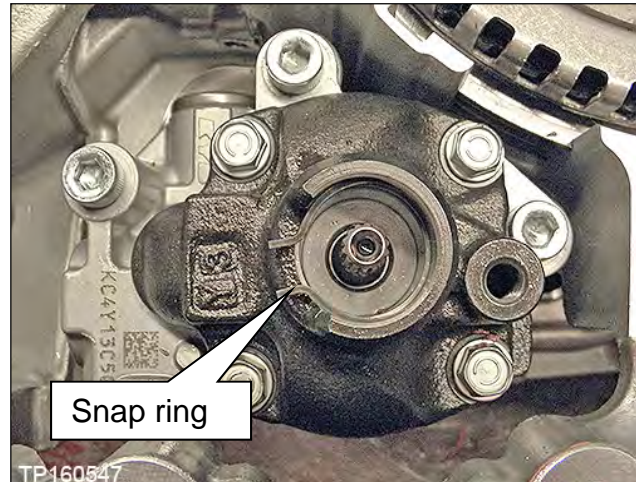

Figure 68
45. Torque the three (3) Allen™ head bolts and fitting bolt.
46. Install the original snap ring (Figure 68).